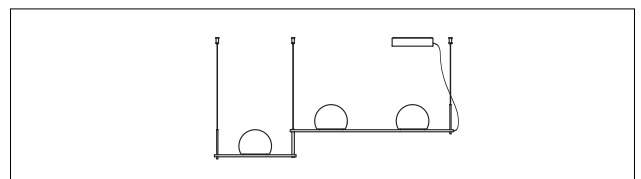

Figure 1A
- To be mounted facing up (figure 1A) go directly to step 6.